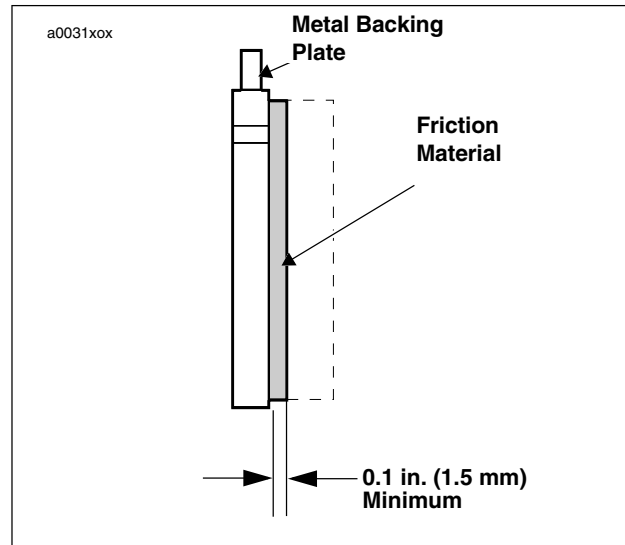
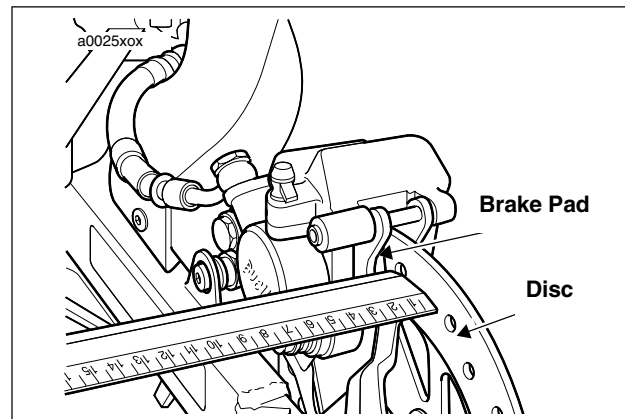

Figure 1-9. Brake Pad - Side View
Figure 1-10. Measuring Rear Brake Outer Pad
See Figure 1-9. See Figure 1-10. Inspect brake pads for damage or excessive wear. Replace both pads as a set if friction material of either pad is worn to 0.1 in. (1.5 mm) or less. If this amount of wear occurs, wear grooves (2) will disappear from friction material surface.